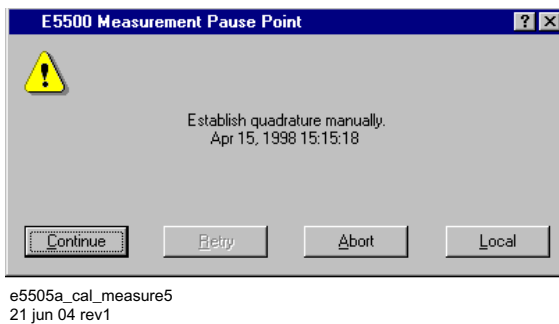

Figure 215 Calibration measurement (5 of 5)
- The calibration procedure determines the discriminator constant to use in the transfer response by measuring the system response to a known FM signal. Refer to Figure 211 on page 288 through Figure 215 on page 289.